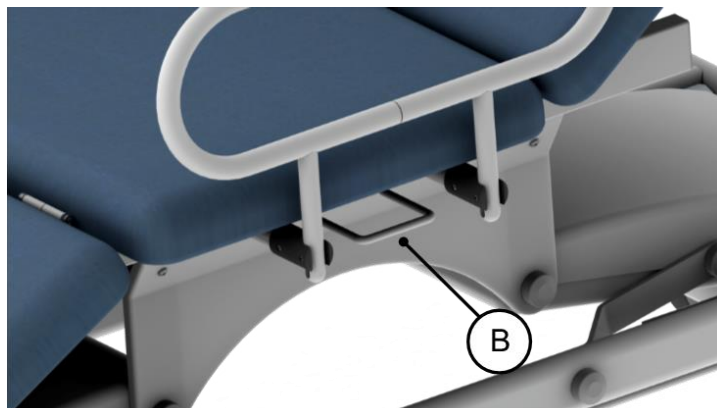

Figure 3.
The handset when not in use should be hooked over the storage bars located on both sides of the couch in the middle of the top section (figure.3) (B) for operator's convenience.